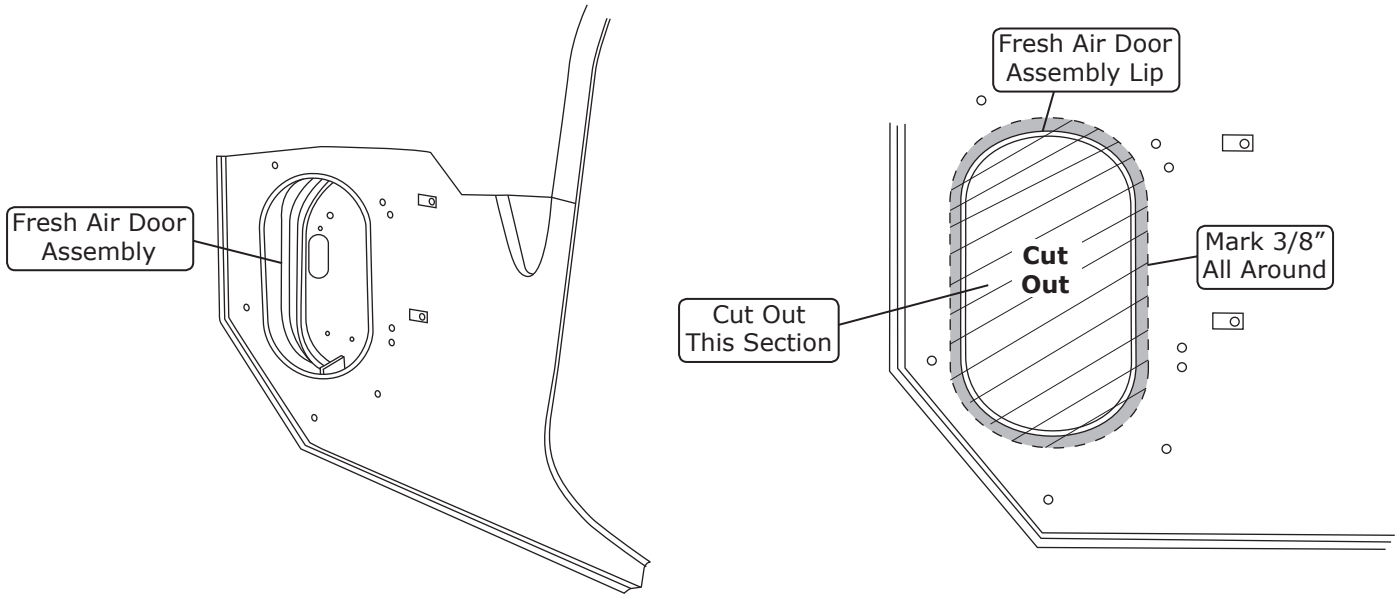

Figure 7
2. On the kick panel, mark 3/8" out from the fresh air door assembly lip around the entire perimeter of the fresh air door assembly as shown in Figure 7, below. Cut out the section as shown.